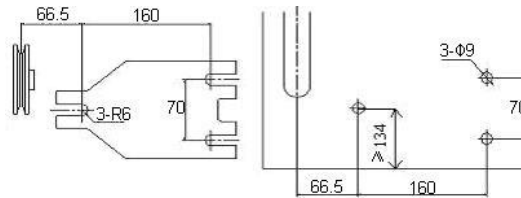

Fig.2-1
Step 1: Mount lifting bracket. When motor installed under the machine table, as needed, to drill holes in the following diagrams (see Fig. 2-1 the example for USA base table) for the installation, mount lifting bracket.